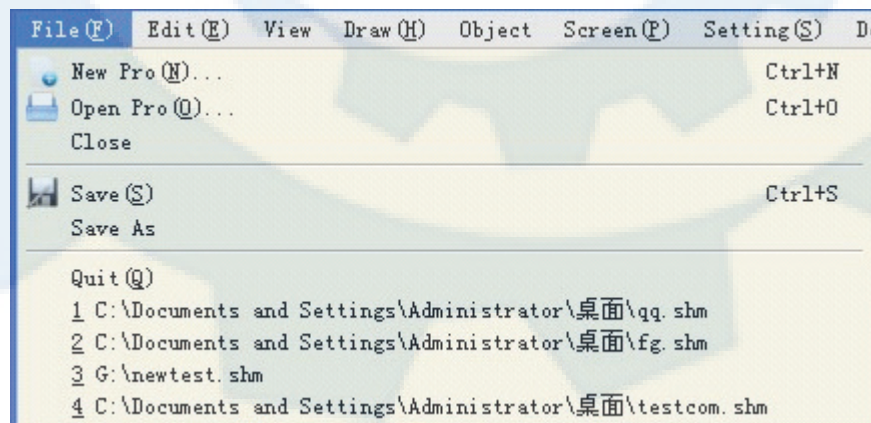

Figure 2-29: “File” menu
File menu includes such options as New Project (N), Open Project (O), Close(C), Save(S), Save As and Quit (Q). Grey options indicate the corresponding operation is invalid under current environment. To open File menu, click the “File (F)” button on the left top corner of the screen, and then a drop-down bar will appear. See Figure 2-29.